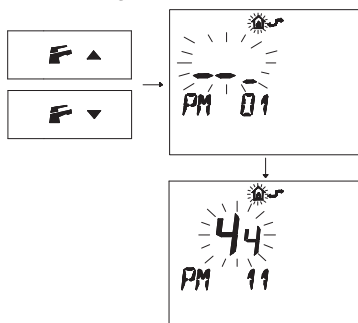

Fig. 7.29
- Press buttons or to display the "PM11" program of the pump post-circulation (Fig. 7.29).